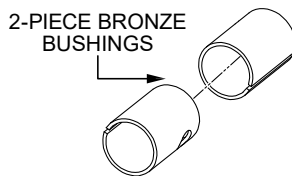

Figure 49. Bronze Bushings
5. Examine the **bronze trowel arm bushings** (Figure 49), and clean them if necessary. Replace the bushings if they are worn or out of round.